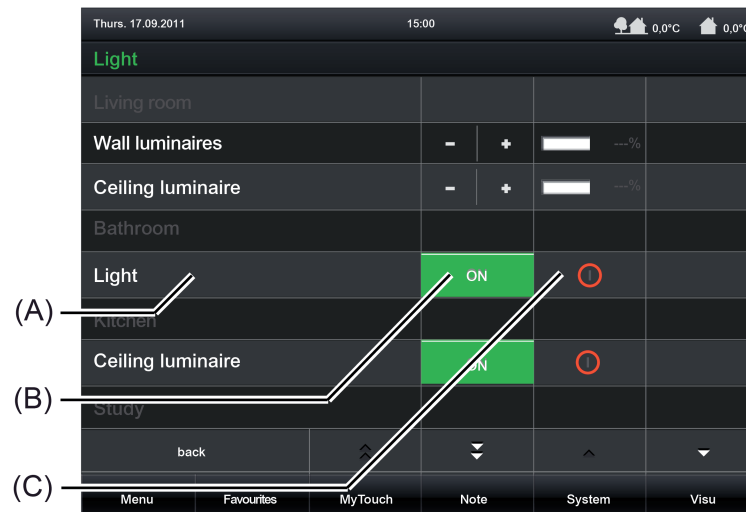

Figure 17: Example of operating and display elements of the function "Switching" here: Light in the bathroom and ceiling luminaire in the kitchen
The display area contains different display elements (Figure 17) that are influenced by parameters. A name can be assigned to each KNX function in the configuration software (A). The sensor surface for direct operation (B) displays the switching state that should be produced by the next touch, depending on the configurations in the configuration software. Appropriate colour markings and the changing of display texts is possible. The display area (C) will contain different icons or texts depending on the object value of the switching status feedback ("0" / "1"). The display in the sensor surface and display area changes depending on the switching state thereby enabling the state of the controlled KNX function to be read clearly (e.g.: OFF or ON).